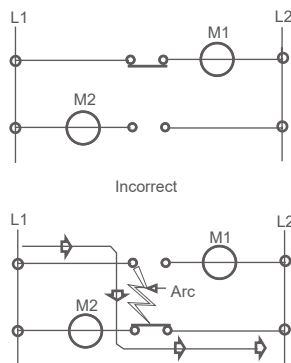
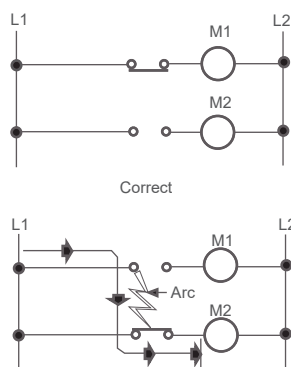

Figure 7: Contacts connected to opposite polarities. Line to line short (bold line) can occur through arc drawn when contacts operate
Figure 8: Contact connected to same polarity. Line to line short cannot occur when contacts operate
- The single pole, double throw contacts of a snap switch used in a limit switch should not be used on opposite polarities. When load M1 is connected between the contact and line L2, and load M2 is connected between the other contact and line L1 (figure 7), a line-to-line short (bold line) can occur through the arc, which may be drawn as the contacts operate. When contacts are connected to the same polarity (figure 8), this line-to-line short cannot occur.